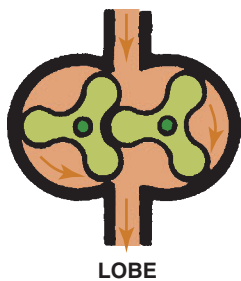

FIGURE 9-5
- **Roots type.** Named for Philander and Francis Roots, two brothers from Connersville, Indiana, the **roots supercharger** was patented in 1860 as a type of water pump to be used in mines. Later, it was used to move air and is used today on two-stroke-cycle Detroit diesel engines and other supercharged engines. The roots-type supercharger is called a **positive displacement** design because all of the air that enters is forced through the unit. Examples of a roots-type supercharger include the GMC 6-71 (used originally on GMC diesel engines that had 6 cylinders each with 71 cu. in.). Eaton used the roots design for the supercharger on the 3800 V-6 GM engine. ● **SEE FIGURE 9-5.**